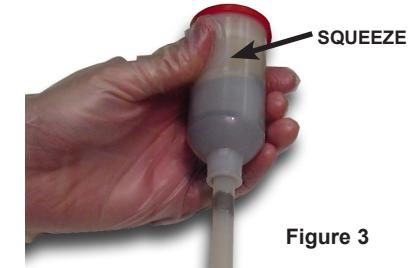

Figure 3
7. Squeeze the cartridge in the area of the removed tape band to deform the foil barrier between the two materials. See Figure 3.